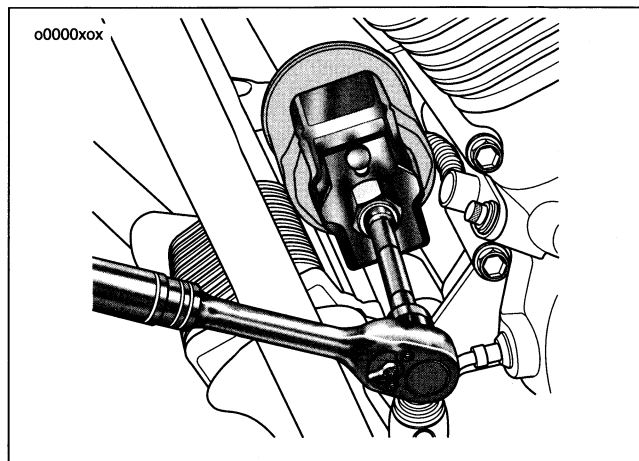

Figure 62. Engine Oil Filter Removal
- c. See Figure 62. Using a 3/8 inch drive with a 4 inch extension, turn wrench in a counterclockwise (CCW) direction. **Do not use with air tools.**